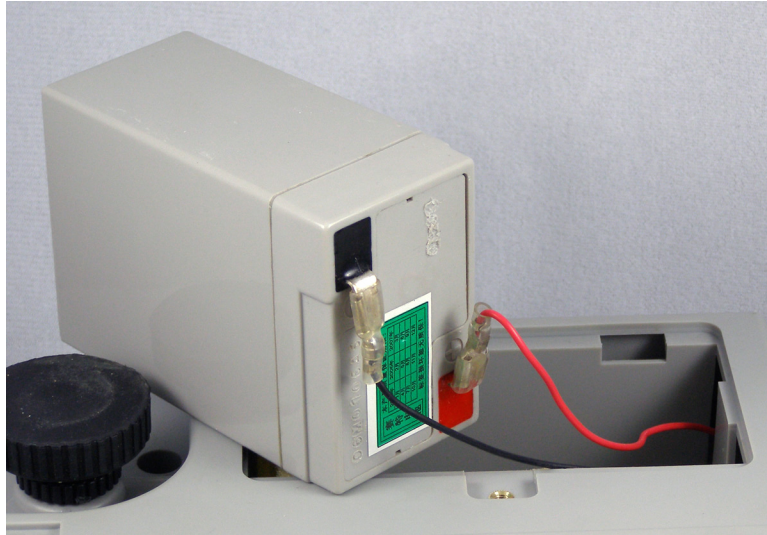

Figure 2.2 Connecting the Battery
2. Connect the red wire to the red battery terminal and the black wire to the black battery terminal. See Figure 2.2.